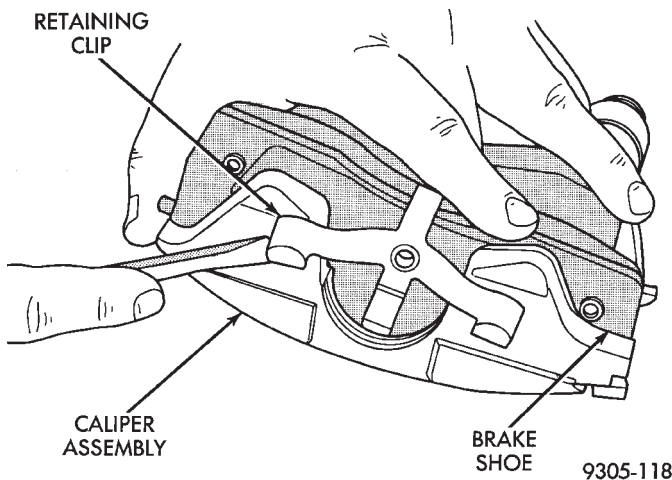

Fig. 5 Removing Outboard Brake Shoe
(7) Remove outboard brake shoe, by prying the shoe retaining clip over raised area on caliper. Then slide the shoe down and off the caliper (Fig. 5).